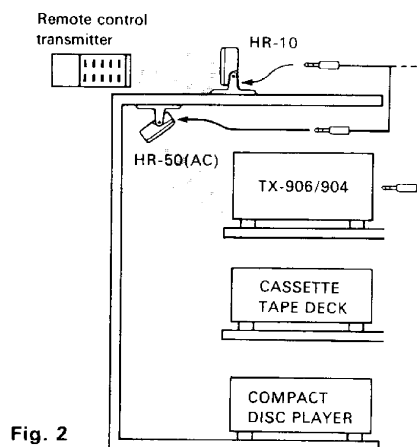

Fig. 2
- To enable remote control operation when the TX-906/904 is mounted in a rack which will not permit infra-red beams to pass, place the HR-10 somewhere outside the rack and set the HE-50(AC) in a position which will permit remote control operation of the TX-906/904. The HE-50(AC) is not necessary when utilizing the ONKYO set with the **RI** mark. Please connect the HR-10 and TX-906/904. (see Fig.2)